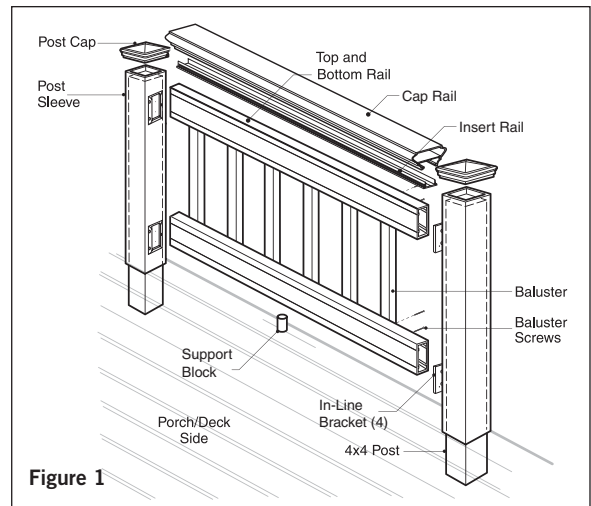

Figure 1
Step 6 Measure the distance between installed post sleeves to determine the length of the top and bottom rails (**Figure 1**). The distance between the post and first baluster should be less than 4" and equal on both ends (**Figure 4a and 4b**). Remove an additional 1/4" on both ends (1/2" overall) for the bracket to fit between the rail and post. Trim the top and bottom rails to length.
Step 9 A support block is needed at the center of each rail. Cut the support block to the proper height. Attach to the bottom of the lower rail (refer to **Figure 1**). Find the center of the rail and pre-drill using a 1/8" drill bit. Attach the support block connector using the included screw. Mark the location of the support block on the deck surface and attach the other support block connector to the deck using the included screw. Install the bottom rail between the posts. Using the brackets as a guide, pre-drill each screw hole using a 1/8" drill bit and attach each end to brackets using two 1" long screws. Tip: Use a driver extension bit to avoid marring the rail or post sleeve with the drill chuck.
Step 7 A support block is needed at the center of each rail. Cut the support block to desired height. Attach to the bottom of the lower rail (refer to **Figure 1**). Find the center of the rail and pre-drill using a 1/8" drill bit. Attach the support block connector using the included screw. Mark the location of the support block on the step tread and attach the other support block connector to the step tread using the included screw.